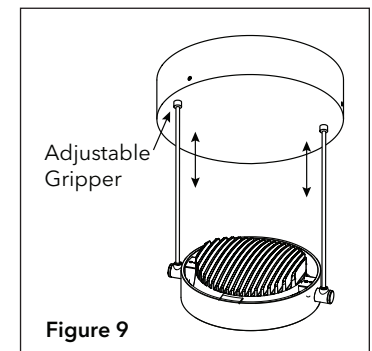

Figure 9
Step 9. Make final adjustments to length of power cables by pushing adjustable grippers up to allow free movement of cables (Fig. 9).